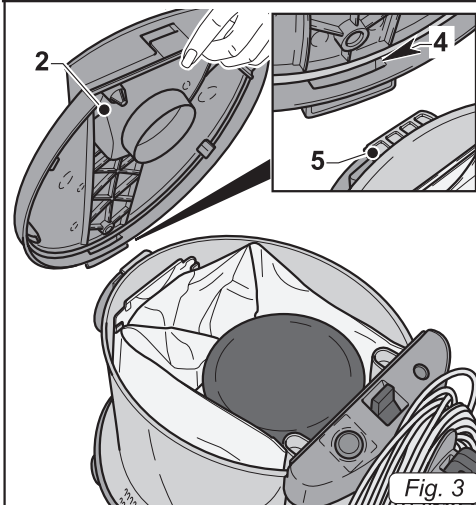

Fig. 3
- Replace the cover (2 Fig. 3), inserting the slot (4 Fig. 3) on the cover in the tab (5 Fig. 3) on the drum, then push it down until you hear it click into place.